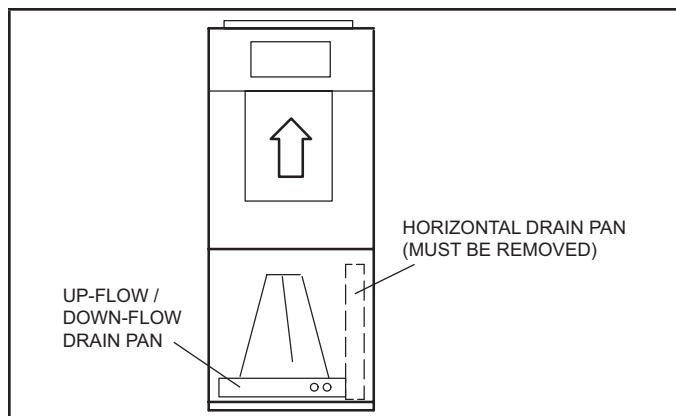

FIGURE 4. Upflow Configuration
- 4 - After removing the horizontal drain pan, place the unit in the desired location. Set unit so that it is level. Connect return and supply air plenums as required using sheet metal screws as illustrated in figure 4.